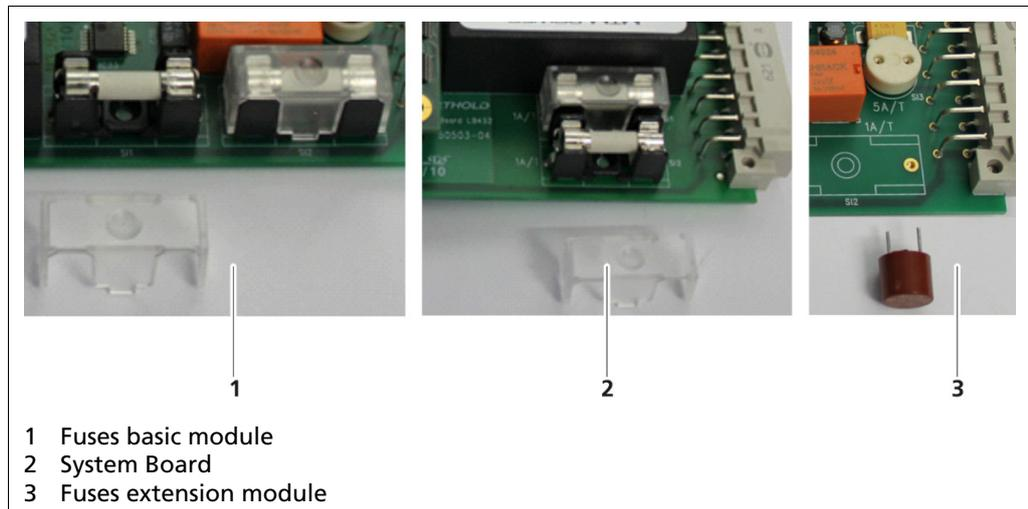

Fig. 82 Fuses
6. Pull carefully on the fuses (Fig. 82, Item 1) until the top part is fully removed.